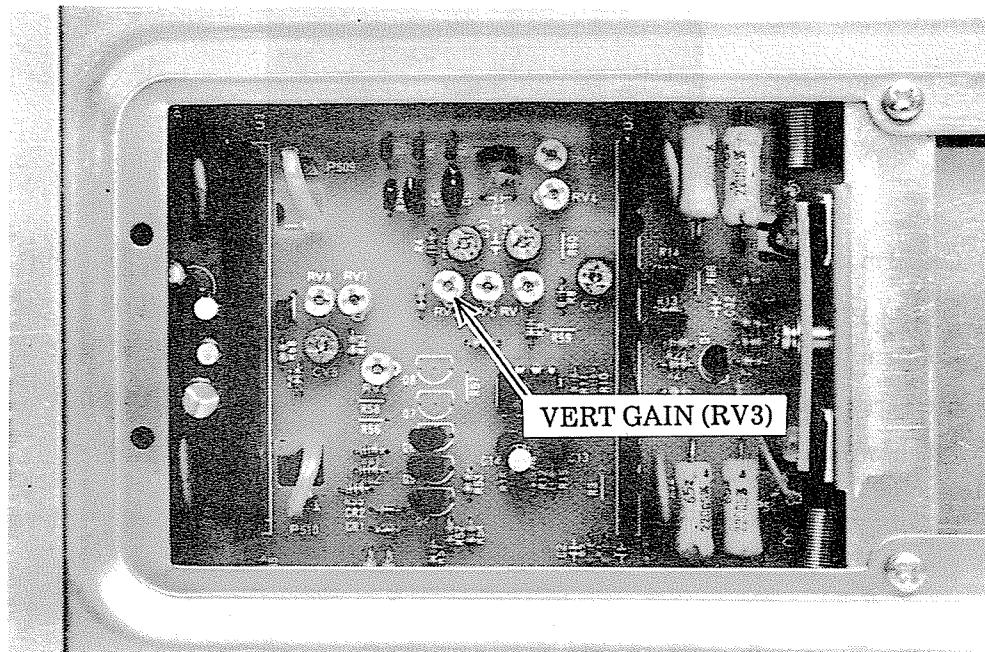

Fig. 4-15 Adjustment position of VERT GAIN (RV3)
- (1) Perform initial setting in accordance with Table 4-3.
- (2) Set "TIME / DIV" to 1ms / DIV.
- (3) Connect the amplitude calibration signal output of the vertical axis calibrator which has been set to 50mVp-p, to the input of CH1 (unterminated), and confirm that the amplitude in the vertical direction is within  $5 \text{ DIV} \pm 0.1 \text{ DIV}$ . If it is not, adjust VERT GAIN (RV3) on board A5 shown in Fig. 4-15.